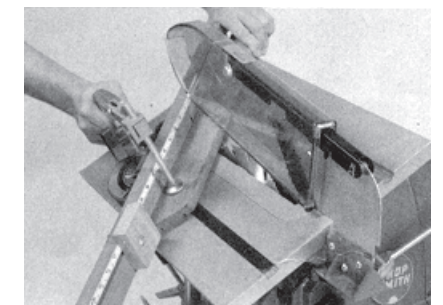

Fig. 5
7. Flip board end-for-end and make second cut. Turn saw off; let blade stop. Repeat process for second piece (see Fig. 5).